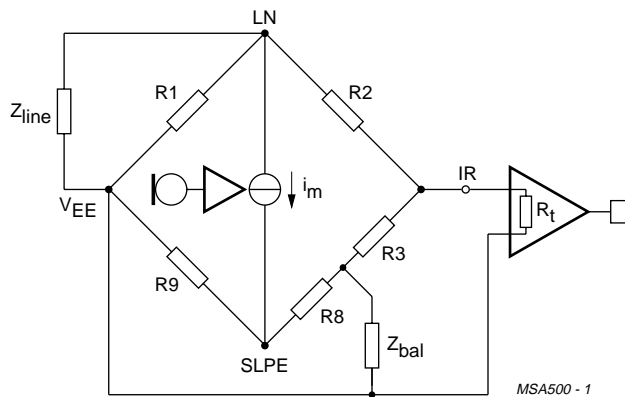

Fig.10 Equivalent circuit of TEA1069 and TEA1069A anti-sidetone bridge.
Suppression of the transmitted signal in the earpiece is obtained by the anti-sidetone network comprising R1//Z_{line}, R2, R3, R8, R9 and Z_{bal} (see Fig.10). The maximum compensation is obtained when the following conditions are fulfilled:
(1) The anti-sidetone network for the TEA1069 and TEA1069A shown in Fig.10 attenuates the signal received from the line by 32 dB before it enters the receiving amplifier.